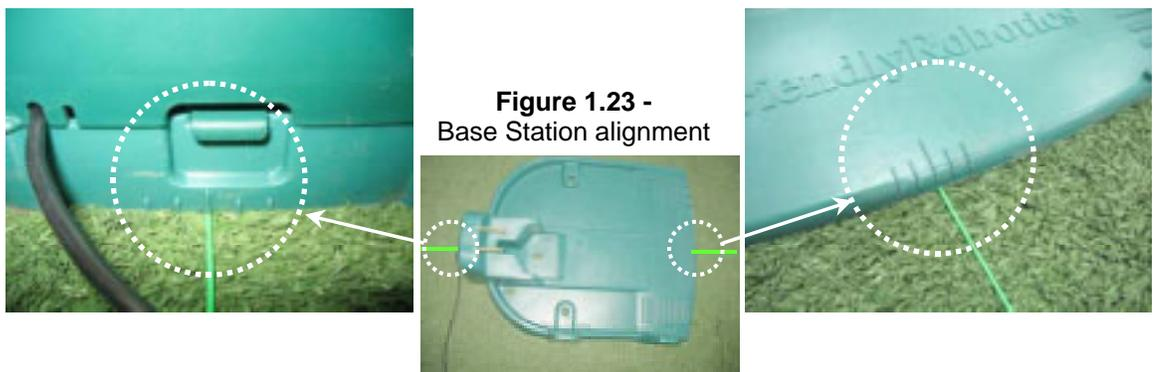

Figure 1.21 -
- Route the Power Supply cord into the Base Station cover as shown in Figure 1.21.